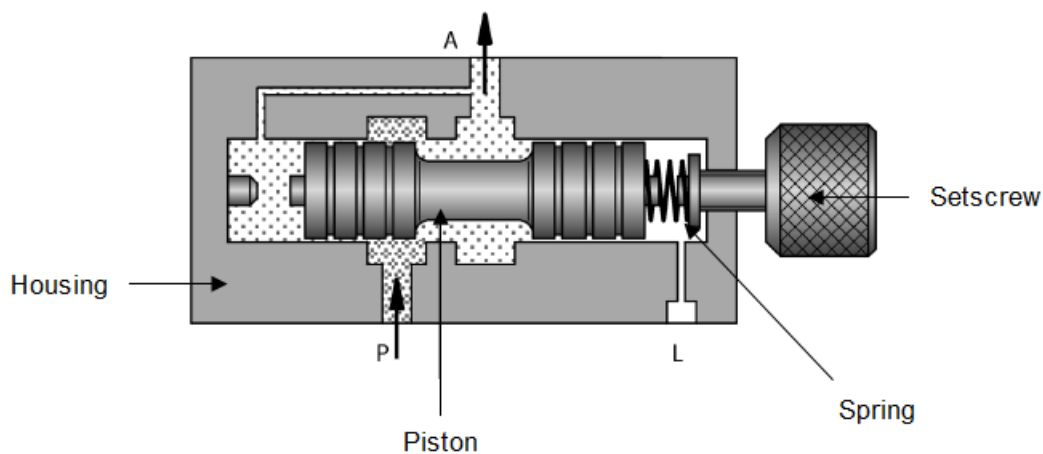

FIG 2.
A. The 2 way pressure reducing valve consists of the following parts: (Fig 2)